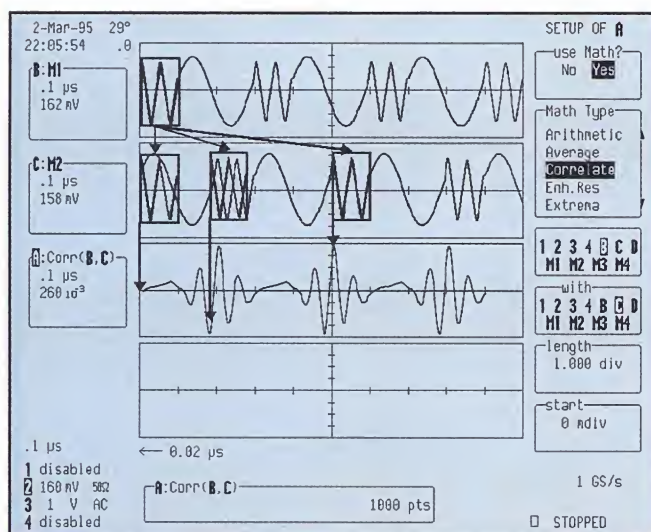

Figure 1. The first division of the the top waveform is compared to the second waveform. The result of the correlation measurement is shown in Trace A.
In Figure 1 the first section of the upper trace (B) is being correlated to the waveform below it (C). The result is drawn on the lower trace (A). The beginning of C matches poorly to B, so the correlation result is near zero. About two divisions later on the screen the two waveform sections are very nearly inverses of each other, resulting in a large negative correlation. In the